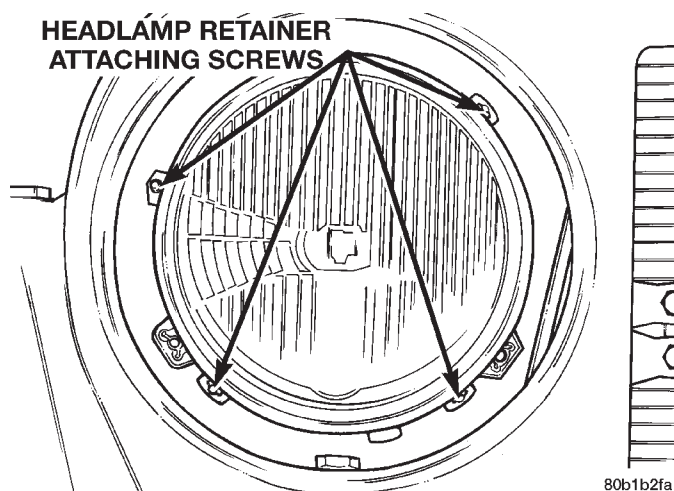

Fig. 2 Headlamp Retaining Ring
- (2) Remove the headlamp assembly retaining ring attaching screws (Fig. 2).
- (3) Disconnect the headlamp assembly electrical connectors and remove the headlamp assembly from the bucket.